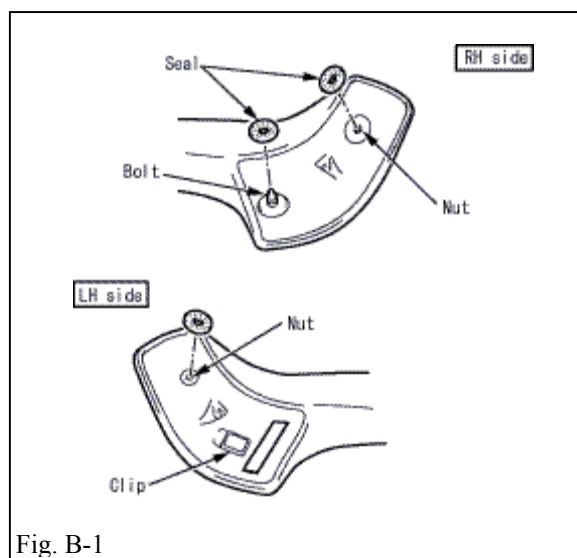

Fig. B-1
2. Apply a seal around the base of the bolt on the RH side of the Rear Wind Deflector. (One (1) location for RH). Similarly, apply seals around the nuts of both sides of the deflector. (One (1) location for each side). (Fig. B-1)